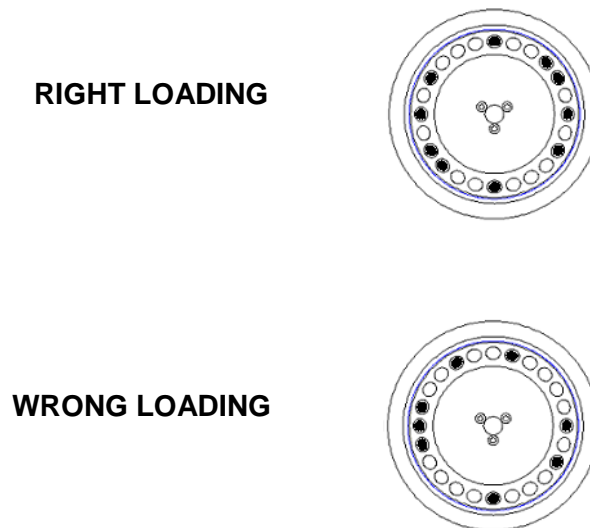

Figure 3
- Be careful that the rotor fits on the drive shaft (See Figure 3).